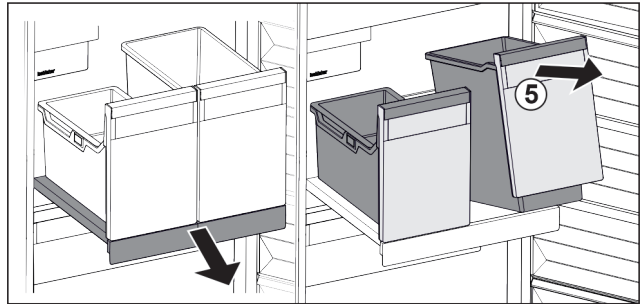

Fig. 139
- ▶ Lift the container Fig. 139 (5) at the front.